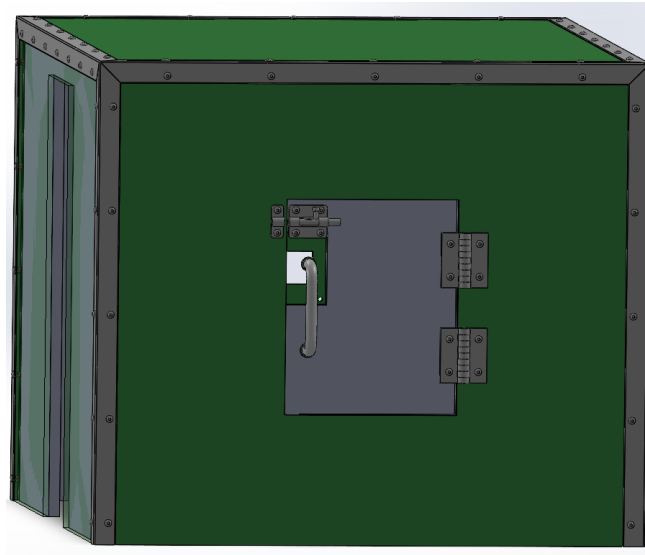

Fig. 20. Slide-bolt latch installed on the door and front acrylic.
4. Screw the slide-bolt latch onto the door and front acrylic using the 1/4" 8-32 screws, see Fig. 20.